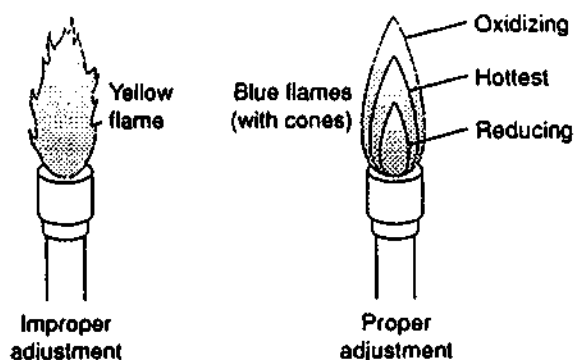

Figure 2
- a. If the flame is a yellow color, use the barrel and air ports to adjust it until it is completely blue and shows an inner cone as illustrated in Figure 2.